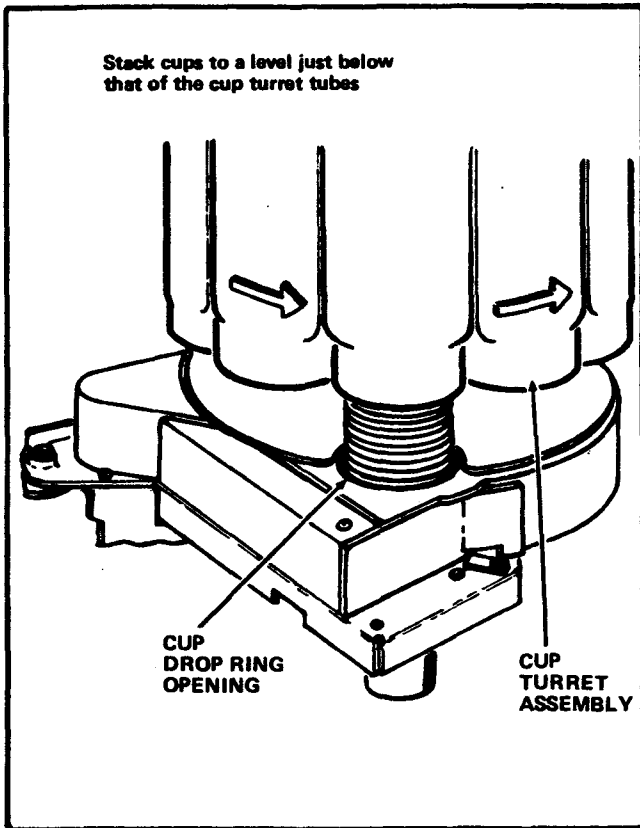

Figure 3-11. Initial Position of Cup Turret Assembly
4. Remove the Cup Turret Cover and place a stack of cups down one Cup Turret Tube into the Cup Drop Ring, sufficient to bring the stack of cups to a level just below that of the Cup Turret Tubes. See Figure 3-11.
5. With a slight pressure, rotate the Cup Turret Assembly counterclockwise a short distance until the Cup Turret Assembly ceases to rotate. See Figure 3-11.